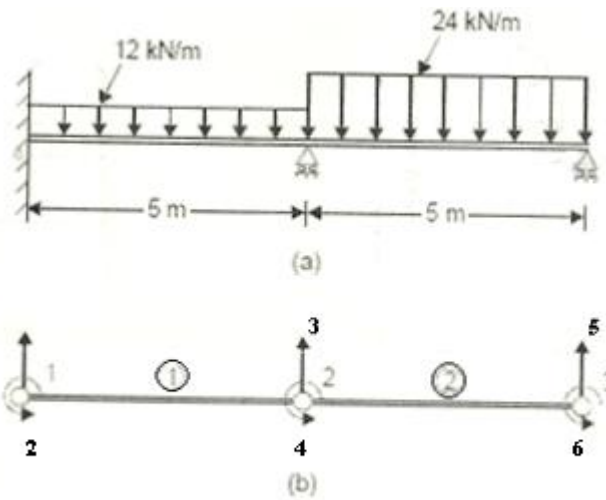

Fig.7.
- B Analyze the beam shown in Fig.7 by finite element method and determine the end reactions. Also determine the deflections at mid spans given $E=2 \times 10^5 \text{ N/mm}^2$ and $I=5 \times 10^6 \text{ mm}^4$ 12